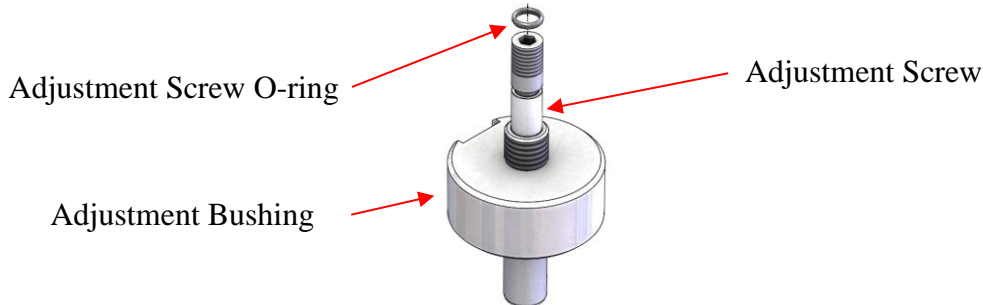

Figure 20: 2" Body Inner Bonnet Components
13. Remove and discard the adjustment screw o-ring. See Figure 20.